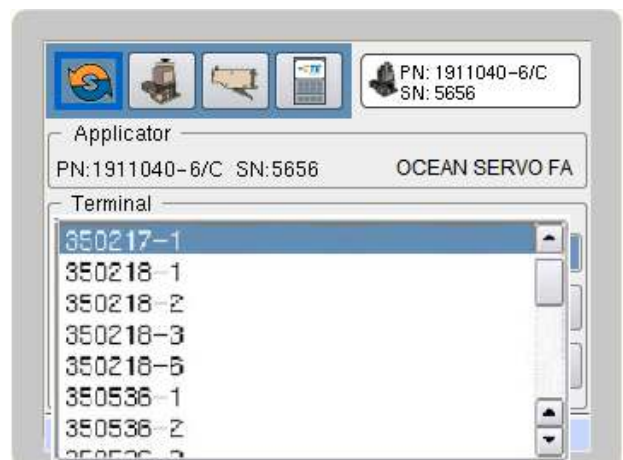

Figure 41
3. Use the Down navigation key to navigate to the Terminal field. See Figure 41.
4. Press the Enter key to enter the terminal selection field. See Figure 41. Scroll through the list using the Up and Down arrow keys. Select a terminal by moving to the desired terminal and pressing the Enter key. To cancel without selecting, press the Cancel key.